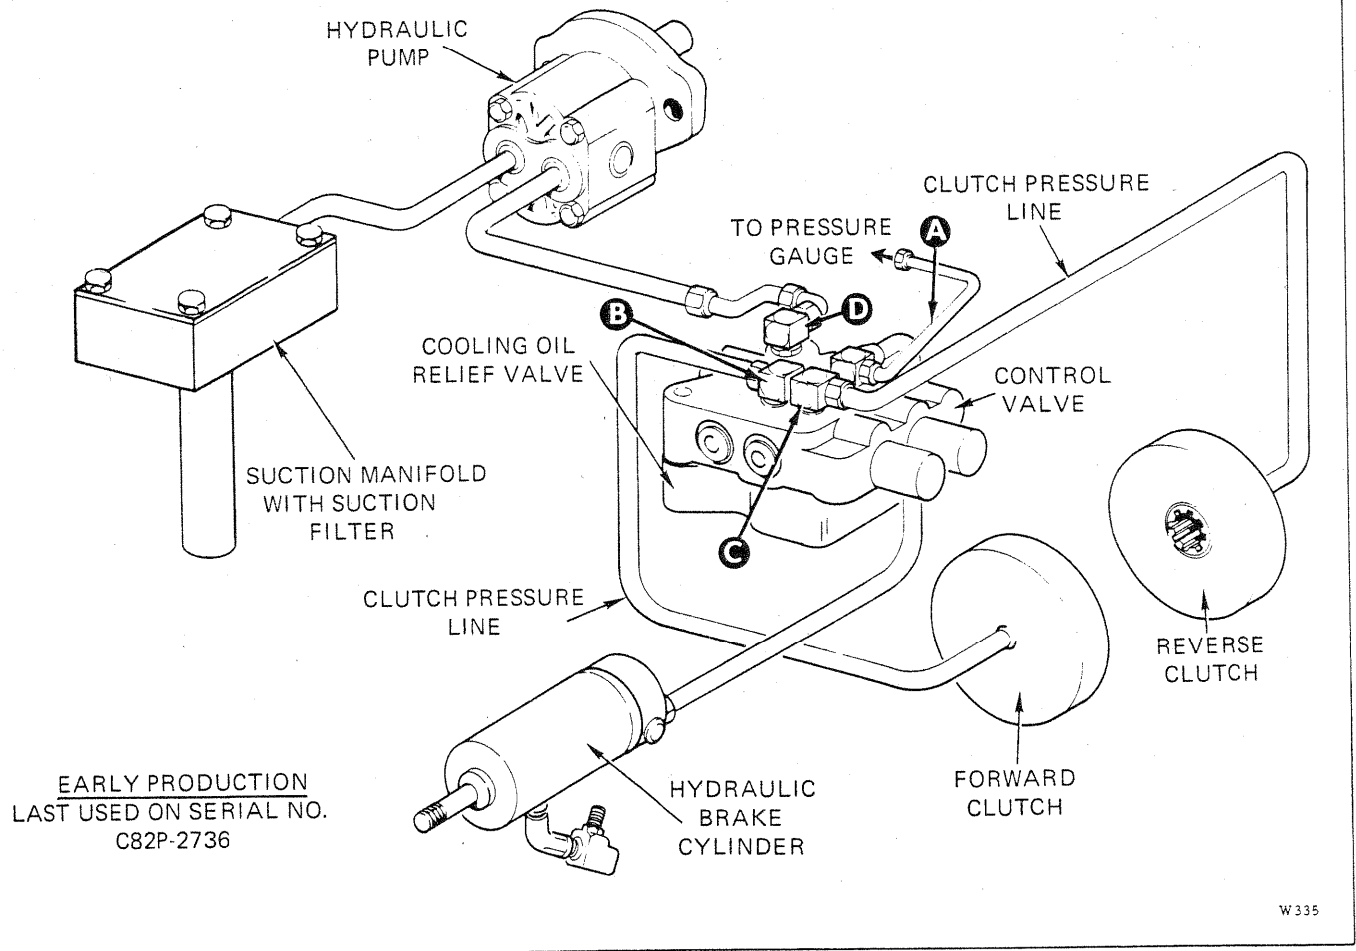

FIGURE 4-10. HYDRAULIC SYSTEM PRESSURE CHECKS (Sheet 1 of 2)
**4-25. HYDRAULIC SYSTEM PRESSURE CHECKS.** (See Figure 4-10.) The later production winch, having an all-fabricated housing (see Figure 1-1), has a different control valve installation and access arrangement than the early production version with the cast/fabricated housing. Access to the control valve for the early production is through a removable top